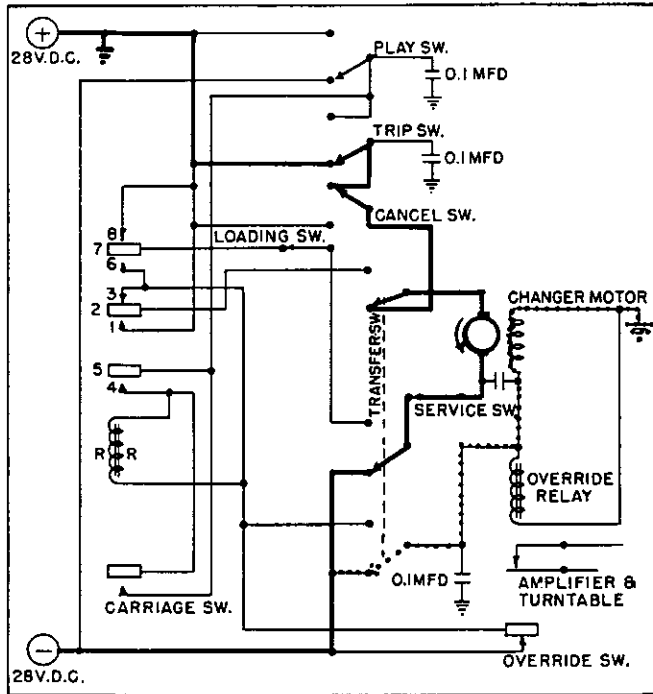

Fig. 63. PHASE 6
f. Phase 6 -- Trip Switch Function. (Fig. 63)
The function of the trip switch, as shown in heavy lines, Figure 63, is to open the shunt circuit
An examination of Figure 63, shown in heavy lines, finds negative 28 volt D.C. is present at one side of the changer motor field and one side of the changer motor armature. Positive 28 volt D.C. is present at the opposite sides of both. The over-ride relay, not shown in heavy lines, still remains energized due to the position of the transfer switch.